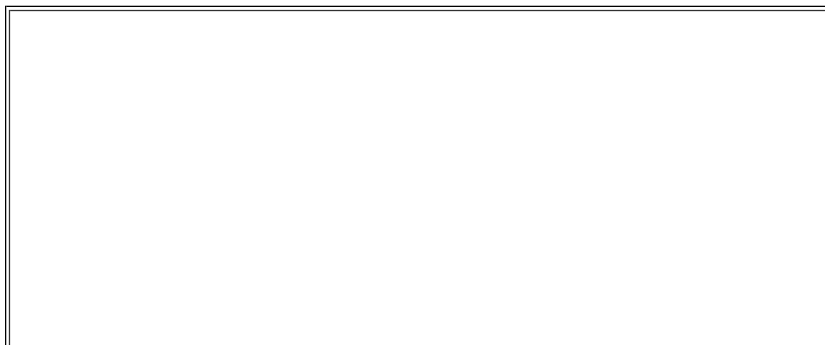

Figure 1: Fuse Cover
1. Remove the fuse cover from the main power distribution center (Figure 1, item 1).